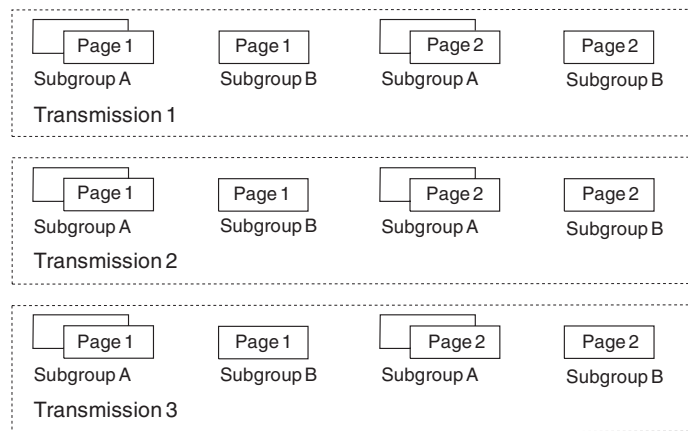

Figure 37. Output from Three Transmissions of a Two-Page Data Set
1. In this example, assume that you have a two-page print job that uses a form definition that includes a copy group containing two subgroups. The first subgroup calls for two copies with a particular set of modifications, and the second subgroup calls for one copy with another set of modifications. In the JCL, you would specify COPIES=3. The data set is transmitted to the printer three times, and you get three collated copies of the entire job. The printed output would be as shown in Figure 37. Nine copies of page one are printed, and nine copies of page two are printed.